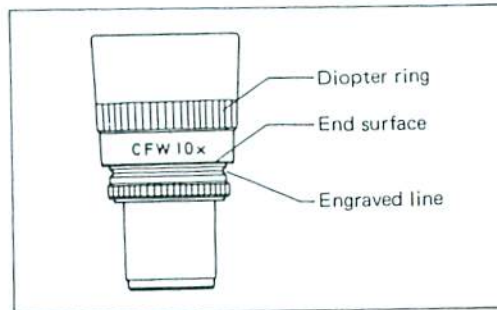

Fig. 16
- ① Turn the diopter ring on each eyepiece, until the end surface of the milled ring coincides with the engraved line, as shown in Fig. 16.